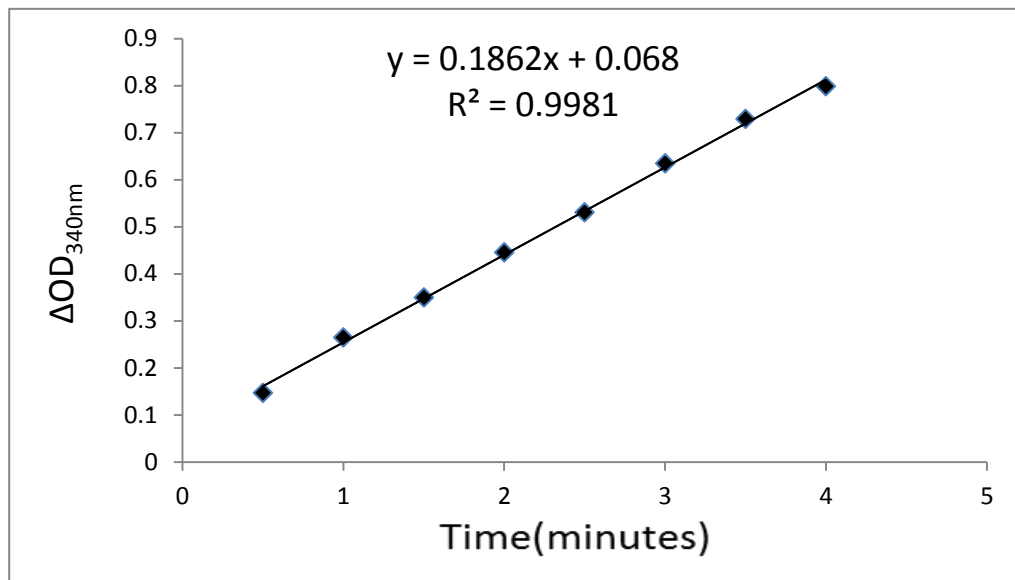

Figure.2 The change in absorbance  $\Delta OD_{340nm}$  of diluted GST positive control during the time at 340nm.
1. Determine the change in absorbance  $\Delta OD_{340nm}/min$  by plotting the absorbance value at  $\Delta OD_{340nm}$  as a function of reaction time to obtain the slope of the linear portion of the curve. As shown in Figure.2.